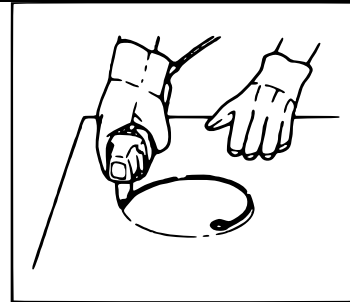

Figure 9
- **Cut-outs (Fig. 9):** Cut-outs can be done by first opening a round hole of at least 21 mm in diameter which the cutting head can be inserted into.